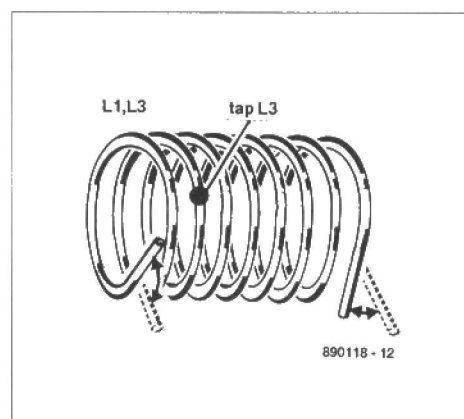

Fig. 4. Winding details of inductors L1 and L3.
**Inductor L1:** close-wind 8 turns of 1 mm dia. (SWG20) silver-plated wire on to an 8 mm drill. Make sure that the ends of the inductor are in the same plane (see Fig. 4.). Then bend the ends at right angles, keeping them central under the turns as indicated by the dashed lines in Fig. 4. Now space the turns evenly so that the terminal wires align with the holes in the PCB.
**Inductor L3:** this is made as L1, but with 6 turns rather than 8. The location of the tap is shown in Fig. 4.